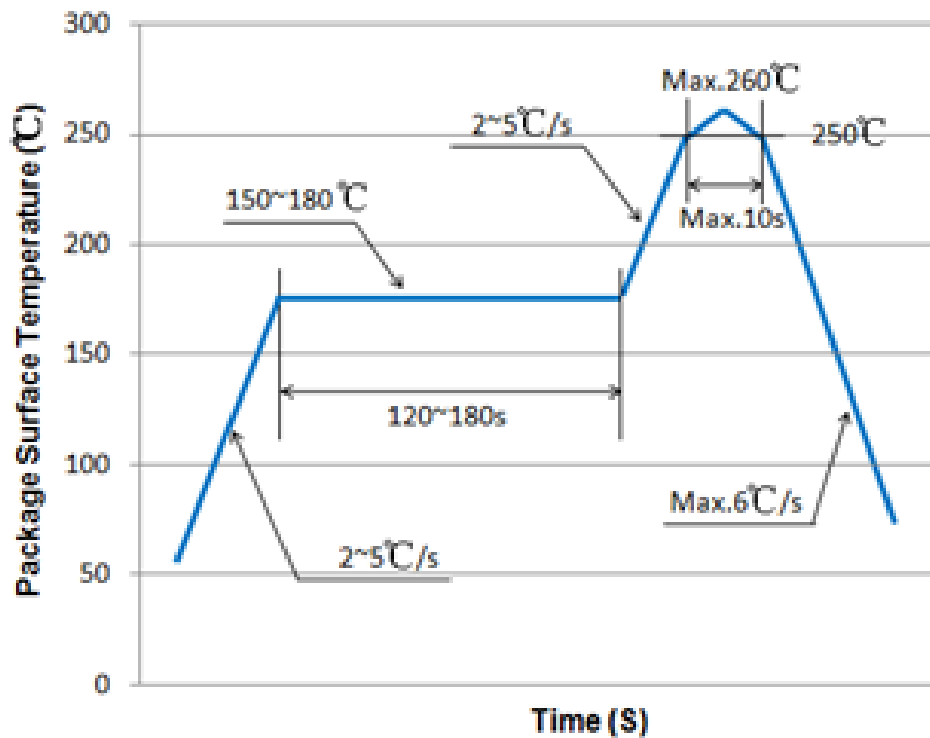

Figure 5: Recommended solder reflow profile
5. Recommended reflow profile for Pb free process is shown in Figure 5. The time duration of peak temperature (260°C) should be limited to 10 seconds.
9. Recommended Solder Reflow Profile is shown in the Figure 5.